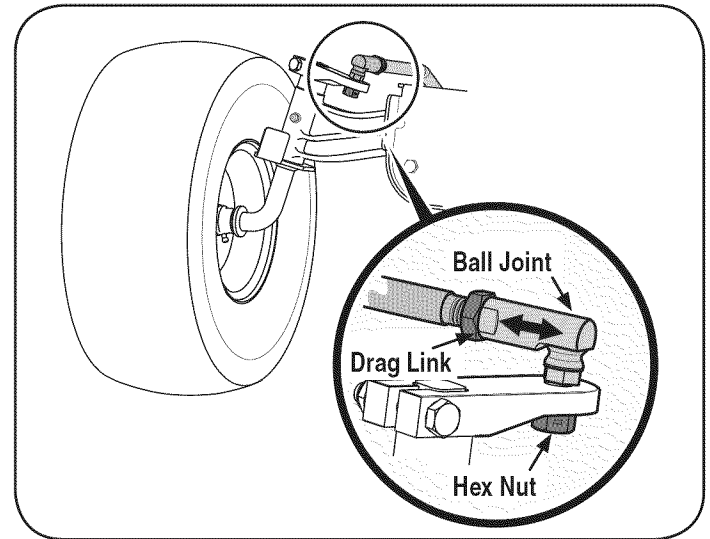

Figure 25
1. Remove the hex nut below the ball joint. See Figure 25.